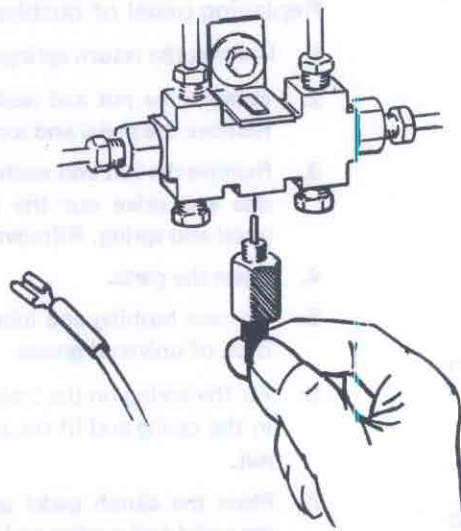

Fig. 52-33. Removing the contact
1. Disconnect the electric cable and unscrew the contact so that the pistons return to normal position, Fig. 52-33.
2. Clean round the cover on the brake fluid reservoir and round the contact on the warning valve. Remove the contact, see Fig. 52-33. If necessary fill with brake fluid.